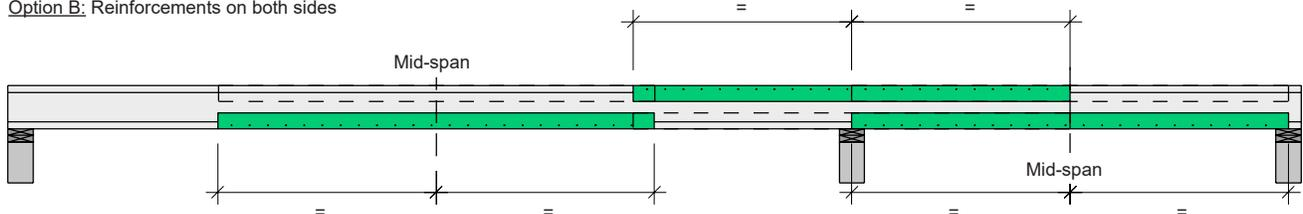

Figure 3. Reinforced NI-20 I-joist in multiple span – See Figure 1 for details
- d. For a double span, center the pieces of lumber on each span and on the intermediate support, per Figure 3 (using two lumber pieces at each location).